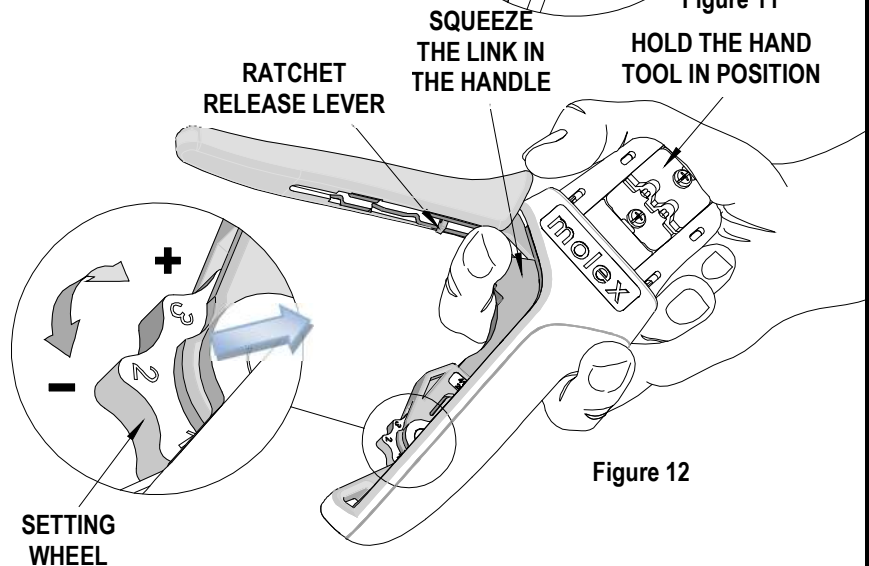

Figure 12
## How to Adjust Tool Preload (See Figure 12)
1. Hold the hand tool in the palm of your hand as shown in Figure 12. Using your index finger, squeeze the link toward the top of the hand tool frame. This will release the preload adjustment wheel.